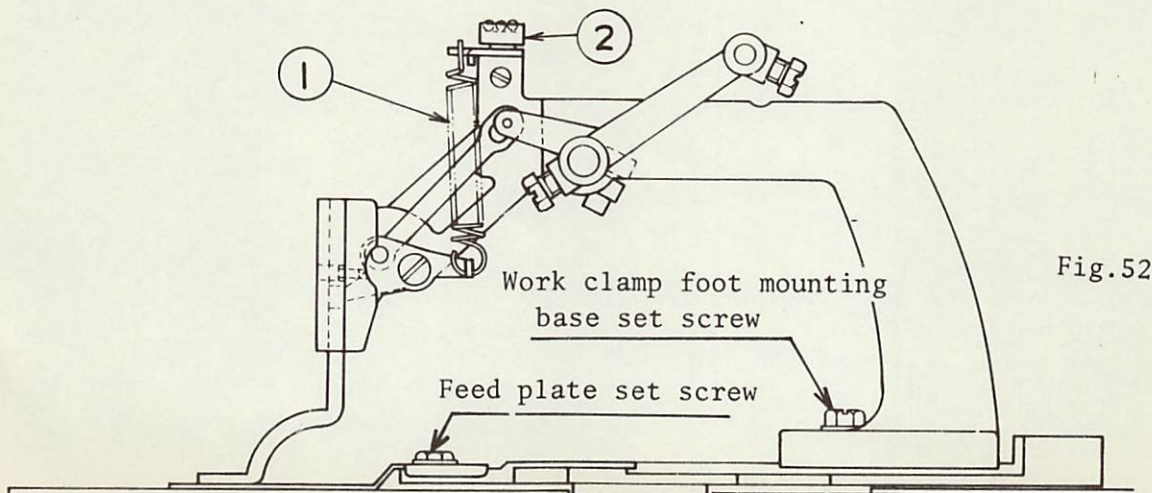

Fig.52
### 4) Adjusting the fore and aft indicating lines(Fig.52)
When the spring ① of Fig.52 is taken off, be sure to create a clearance of 0.1~0.2mm(1/256"~1/128") between the ② and the lower surface of the cam. If there is no clearance here, the feeding becomes heavy.